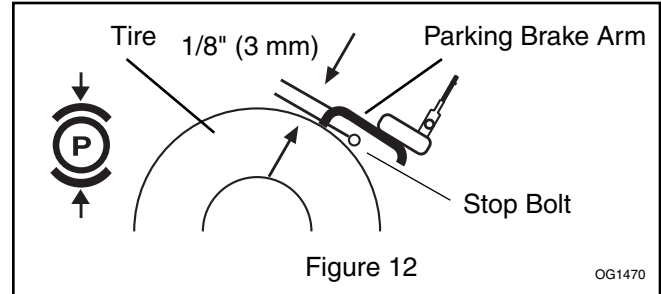

Figure 12
1. Pull back parking brake lever (Figure 12).